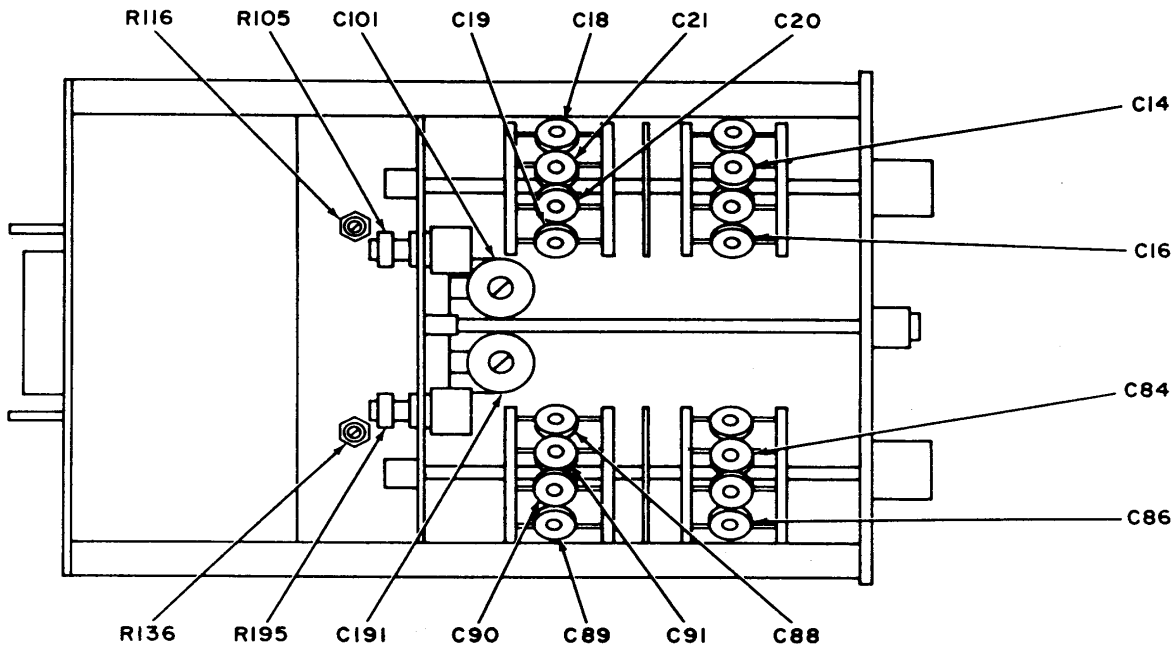

Figure 6. Plug-in unit MX-2995/USM-117 - left-side view.
g. Set channel A VOLTS/DIV switch to .05 and rotate VERNIER control throughout its range. If vertical deflection of trace is observed, adjust R105 (fig. 6) for no vertical deflection.
i. Repeat **f** through **h** above, using channel B controls, substituting adjustment R195 (fig. 6) for R105.
(1) Adjust oscilloscope calibrator (voltage calibrator) output for 0.2 V p-p.
(2) Adjust R116 (fig. 6) for a 4-division oscilloscope vertical display (R).
(3) Repeat (1) above.
(4) Adjust R136 (fig. 6) for a 4-division oscilloscope vertical display (R).
(3) Set oscilloscope POWER switch to ON and adjust C191 (fig. 6) for optimum square-wave display
(8) Set POWER switch to ON and adjust C101 (fig. 6) for optimum square-wave display on oscilloscope.
(9) Set POWER switch to OFF and remove connection made in (7) above.
(10) SET POWER switch to ON and repeat (6) above